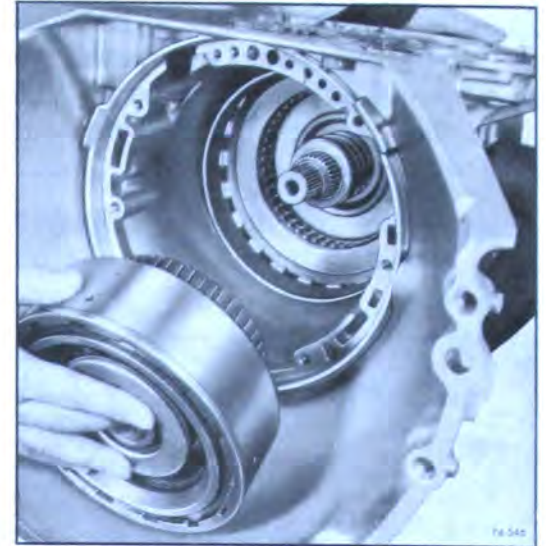

Figure 74-546
7. Remove direct clutch assembly. See Figure 74-546.